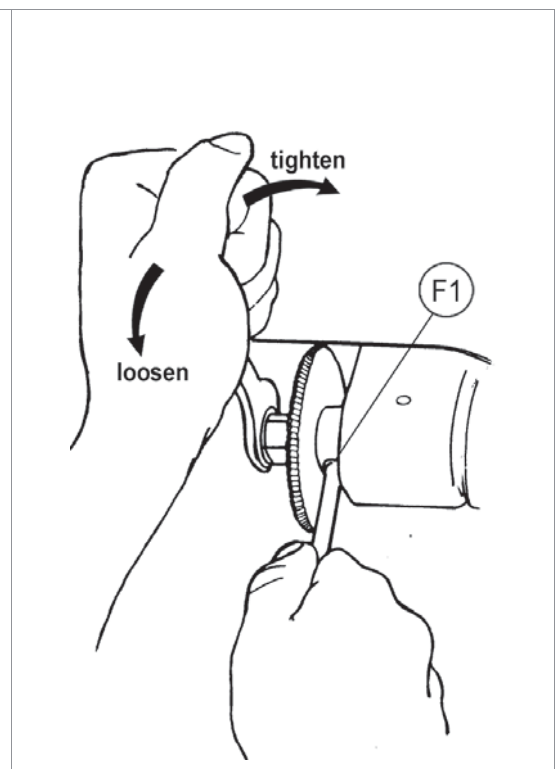

Fig. 36
- 2) Slot the locking rod (provided) into the hole (F1) of the cutting tool shaft (Fig. 36).